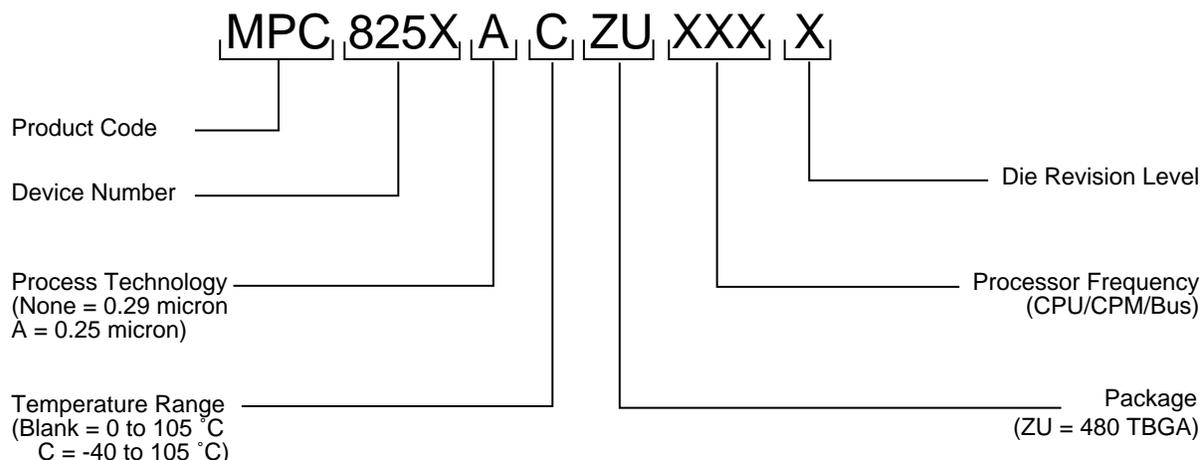

Figure 15. Motorola Part Number Key
Figure 15 provides an example of the Motorola part numbering nomenclature for the MPC8250. In addition to the processor frequency, the part numbering scheme also consists of a part modifier that indicates any enhancement(s) in the part from the original production design. Each part number also contains a revision code that refers to the die mask revision number and is specified in the part numbering scheme for identification purposes only. For more information, contact your local Motorola sales office.
0.1	<ul style="list-style-type: none"> Note 2 for Table 4 (changes in italics): "...greater than or equal to 266 MHz, 200 MHz CPM..." Updated Figure 15 Table 17: core and bus frequency values for the following ranges of MODCK_HMODCK: 0011_000 to 0011_100 and 1011_000 to 1011_1000 Table 18: footnotes added to pins at AE11, AF25, U5, and V4.